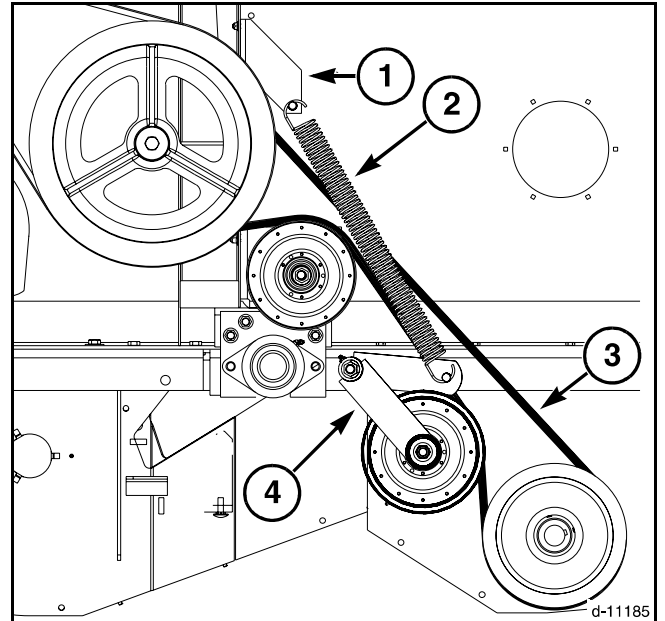

FIG. 521
FIG. 521: Tension the belt (3) by installing the tension spring (2) onto the spring anchor pin in the idler arm assembly (4) and then onto the spring anchor pin in the spring anchor (1). Be sure that the hooks at the ends of the tension spring are seated in the grooves of the spring anchor pins.